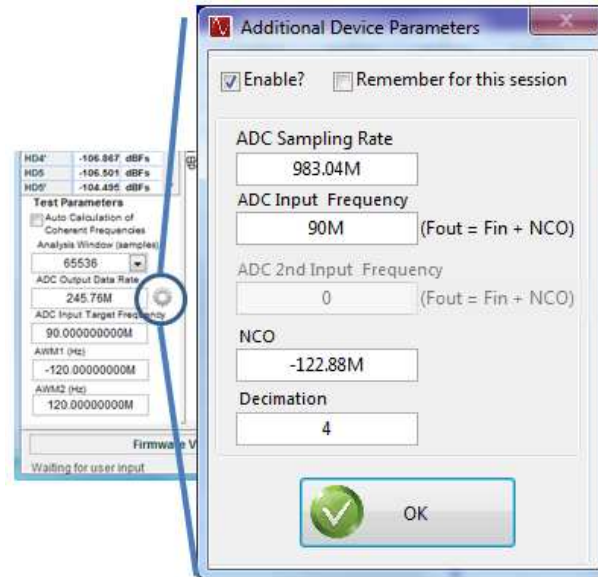

Figure 4. HSDC Pro Sampling Rate and Additional Device Parameters
6. Press the *Additional Device Parameters* symbol next to the ADC Output Data Rate (see Figure 4), and enter the following values, then press OK:
Based on the sampling rate and mode of operation, adjust *ADC Output Rate Additional Device Parameters* to correctly label the harmonics. An example is shown in Figure 4 for Mode 0.